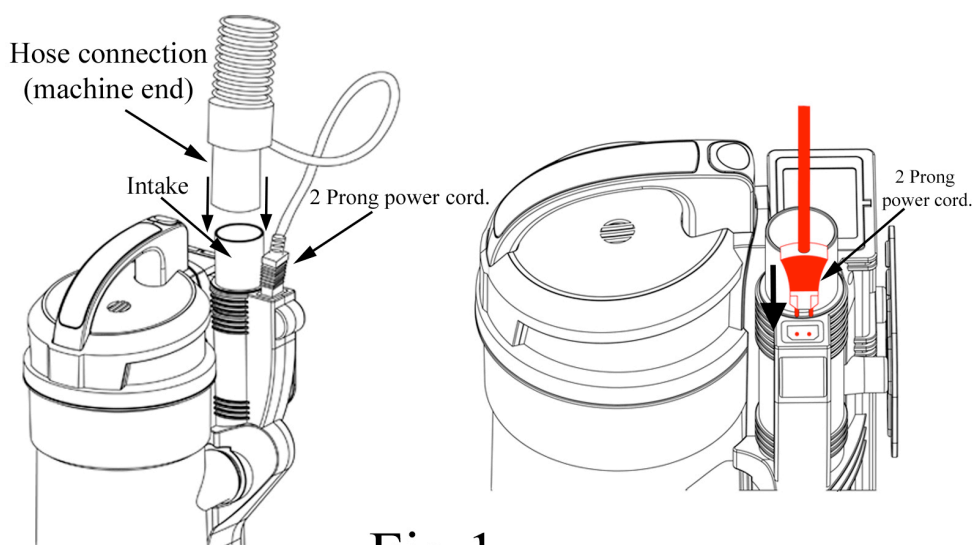

Fig 1
1. To connect the flexible hose to the unit, insert the hose connector into the air inlet, then take the small 2-prong power cord coming from the hose and plug it into the 2-prong receptacle next to the air intake port. (Fig1)